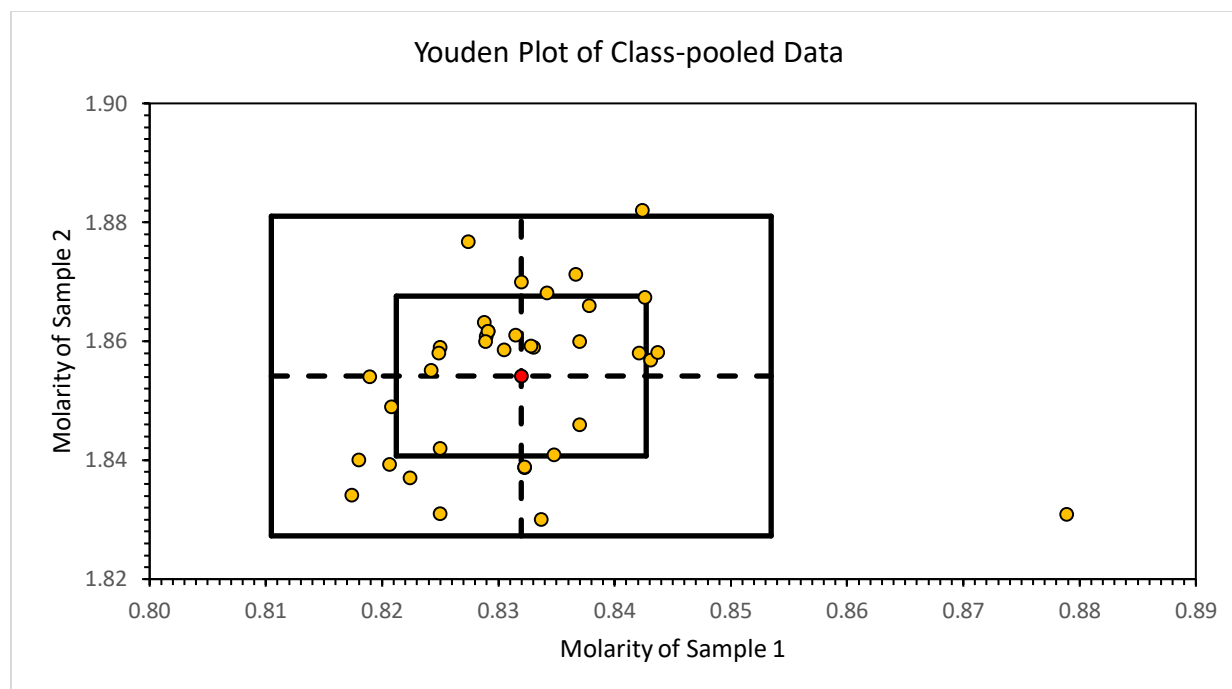

Figure 1: Youden Plot of Class-pooled Data
A Youden Plot of class-pooled data was plotted as shown in **Figure 1** above. Before plotting the Youden Plot with the class-pooled data, the outliers of each sample were removed. The first method was to remove the outliers by visual inspection. Some of the values that looked obviously out of scale from the other values (example: ~ 0.008 from a set of values of ~ 0.08) were removed immediately without conducting any test to prove their outliers' properties. This method was shown in **Table 5** and **10** for sample 1 and 2 respectively. The data removed were highlighted in yellow. The second step was to calculate the Student's t-value of the mean of each sample. The Confidence Interval (CI) used for both samples were t-value at CI of 99 %. Any values that fall outside the lower and upper limits of the mean were removed. This step was shown in **Table 6** and **11** for sample 1 and 2 respectively (data removed that were highlighted yellow). The values of upper and lower limit of the mean with the Student's t-test value were calculated in excel, as tabulated in **Table 7** and **12** for sample 1 and 2 respectively by using the formula listed in **Table 9** and **14** respectively. The removal of outliers by Student's t-value was only done once, although, theoretically more iterations needed until there were no more outliers left. The main reason why only one iteration was needed because only less than 10 data points left if further iterations were done, which were not enough for the analysis of the plot. The remaining data that lie within the mean for each sample were as tabulated in **Table 8** and **13** for sample 1 and 2 respectively. **Table 5 – 14** can be found in the Excel file attached together with this report.